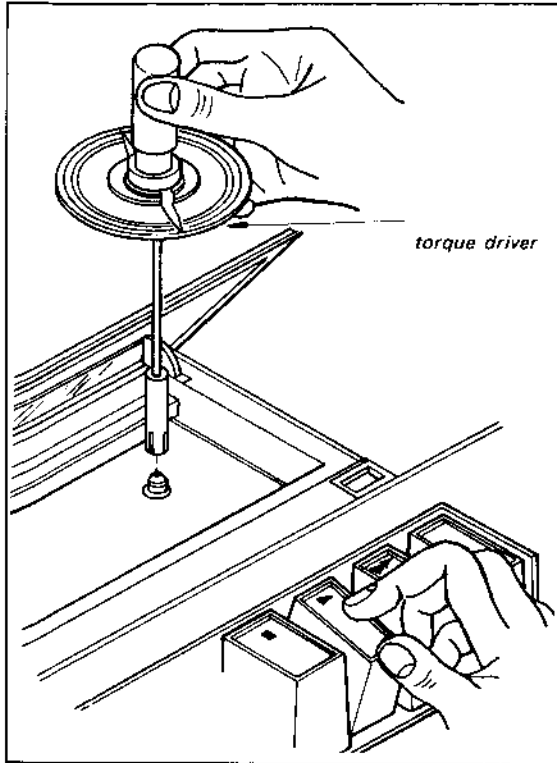
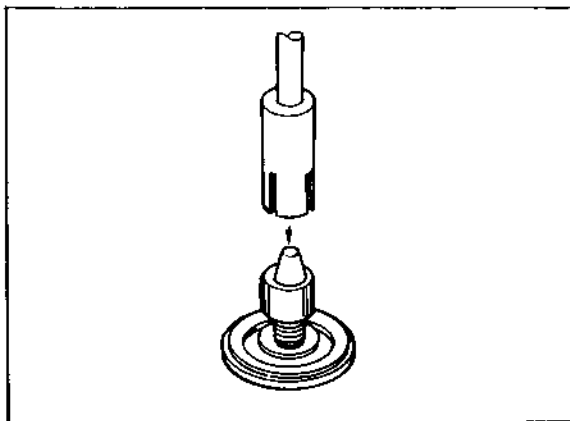

Fig. 3-7 Tack-up tension checkout
Fig. 3-8 Torque driver installation
- * Torque driver (See Fig. 3-7.) or equivalent.
3. Release the torque driver clamp first, and then place it slowly onto the take-up-reel table's shaft as shown in Fig. 3-7. Be certain that the torque driver clutches the shaft properly. See Fig. 3-8.